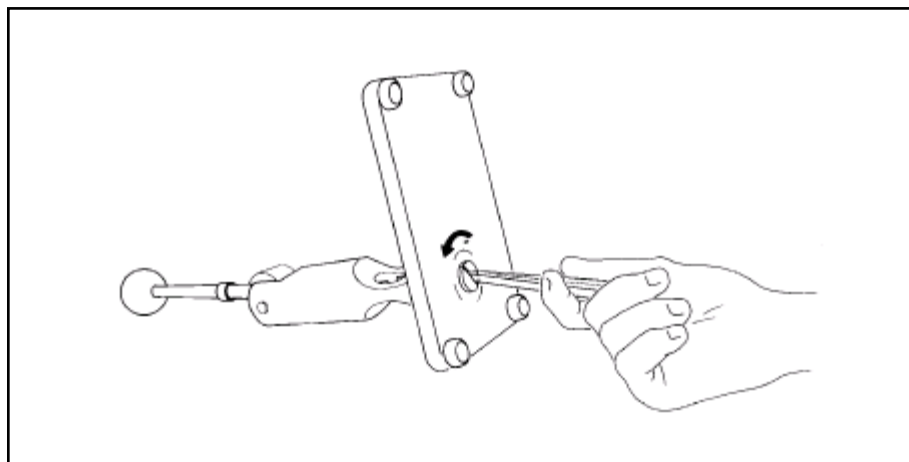

Figure 2
2. Loosen the thumbscrew on the column of the Sample Press (see Figure 2).